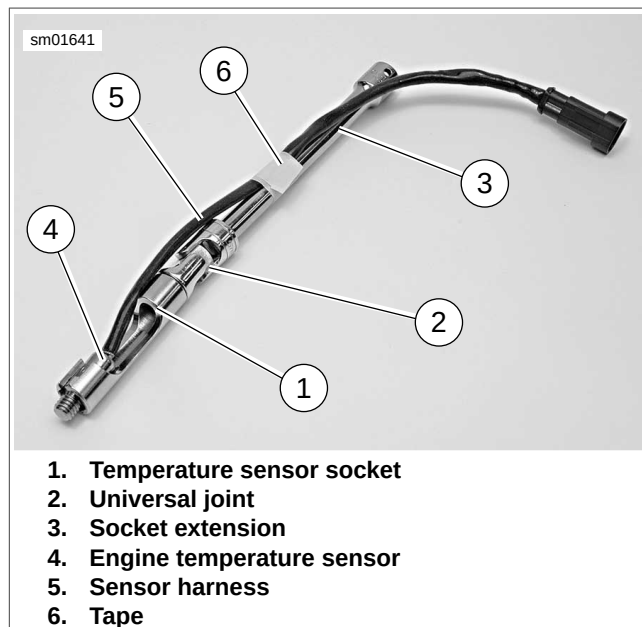
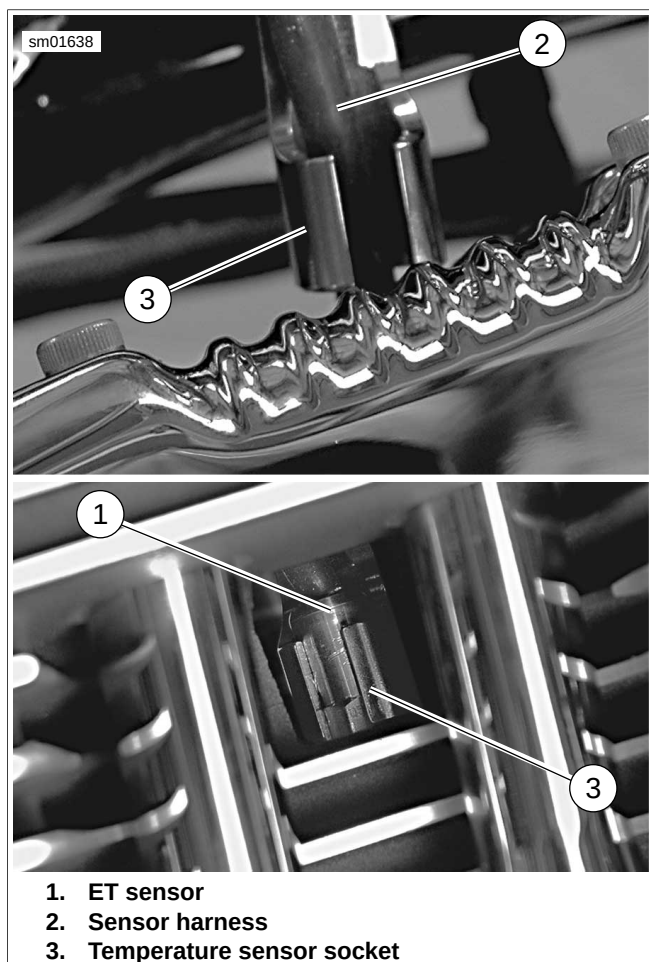

Figure 4-36. Tape Sensor Harness to Extension (Sensor Removed from Vehicle for Clarity)
Figure 4-35. Installing Engine Temperature Sensor Socket (XL shown)
- b. See Figure 4-35. Fit engine temperature sensor harness (2) into slot in temperature sensor socket (3).
- c. Slide socket down harness, through square hole in center of rear rocker cover assembly and fit onto ET sensor (1).
- d. See Figure 4-36. Once you have installed the temperature sensor socket (1) onto the sensor (4), secure the sensor harness to the socket extension (3) with tape (6). This will facilitate removal of the sensor.
1. See Figure 4-36. Fit engine temperature sensor (4) into temperature sensor socket (1).